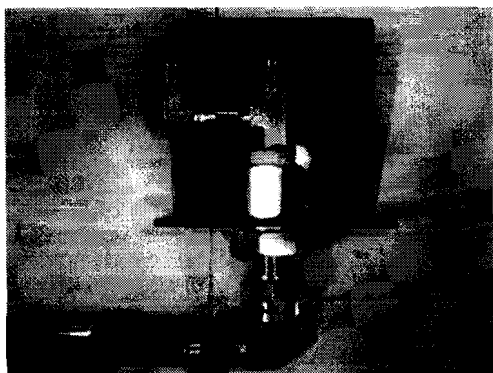
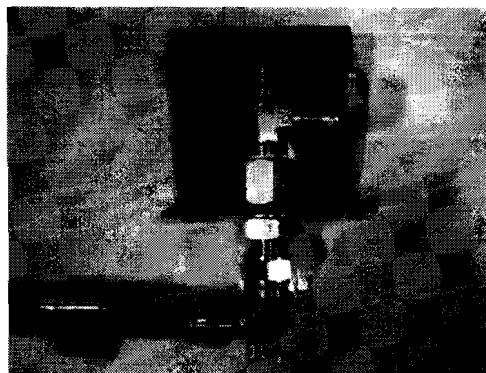

Fig. 2 (before)
Fig. 3 (after)
- Step 3.** Loosen the bulk head nut, and manifold inlet elbow. Rotate the inlet elbow 180 degrees, and the LP manifold 180 degrees, tighten both fittings. See figure 2 (before) and figure 3 (after).